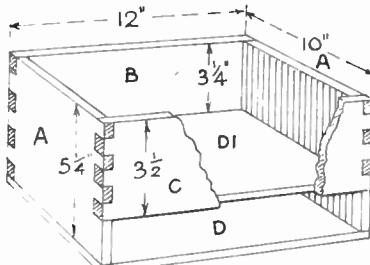

Fig. 1—The building of the box frame
Now cut the floor (D) 12ins. by 10ins. and glue this to the frame, putting in a few fret pins to hold the piece flat while the glue is hardening. The upper floor (D1) is now added. This measures 11½ ins. by 9½ ins., dropped in to a depth of 3½ ins. from the top of the frame, as seen in Fig. 1. One or two flat screws or